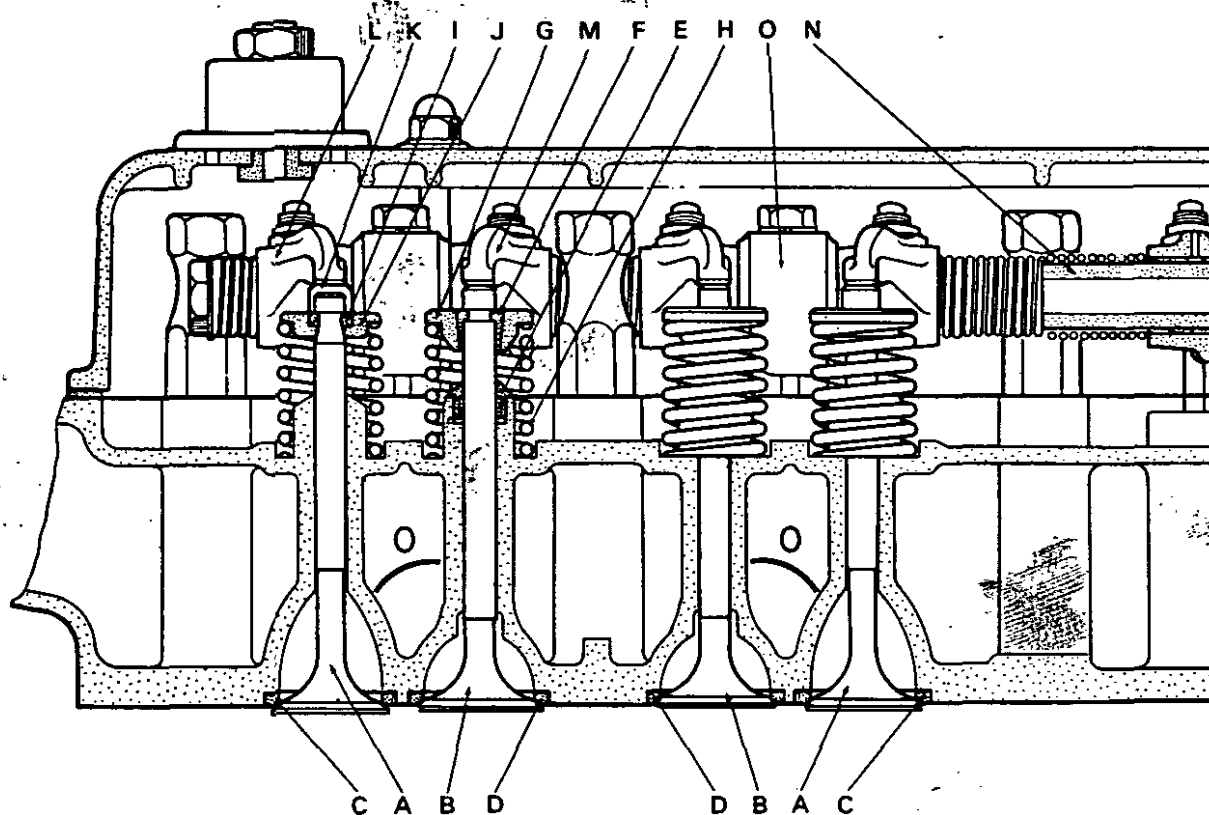

Figure 28. ARRANGEMENT OF VALVES
1. Renew inlet valve seals (see Fig. 28) using Service Tool 961236, making sure there are no burrs on the chamfer in cylinder head recess. Put seal on to the tool, smear with grease and place tool in the recess. Two or three sharp taps with a copper hammer are sufficient to drive seal home. Do not fit seals until cylinder head is ready for assembling and do not withdraw a valve once it has been fitted through a seal. As pulling valve stem through seal causes the cotter groove to trap and damage the sharp edge of the seal, it is necessary to fit a new seal whenever a valve is removed.